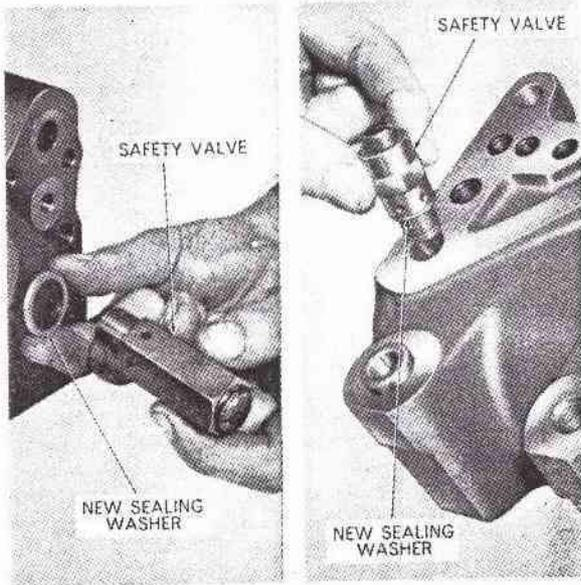

Fig. 393—View at left shows safety valve assembly for model 4000 tractor; view at right is safety valve being installed on model 2000 and 3000 lift cylinder.
**350. LIFT CYLINDER SAFETY VALVE.** To protect the lift cylinder from excessive hydraulic pressure due to shock loads imposed by rear mounted implements, a safety relief valve is threaded into the lift cylinder; refer to Fig. 393. The safety valve will open when pressure within the cylinder reaches 2750 to 2850 psi.